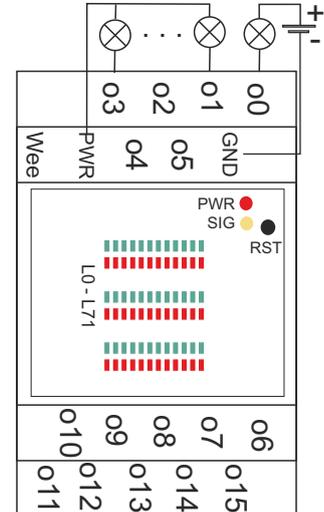

Fig 1. Diagram of the coupling connection
- Note of the card PIN and Serial Number (SN) device (Both located on the housing of the device)
- Connect the cables PWR / GND, o0..o15 by Fig 1